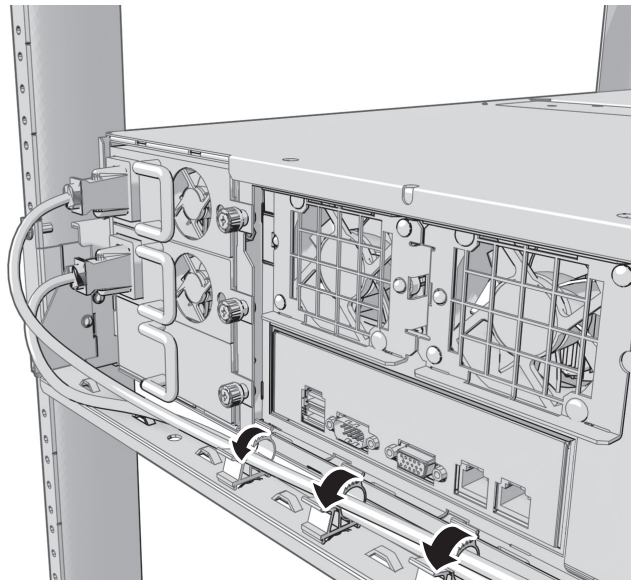

Figure 17. Bundling the Power Supply Cords
14. Position the EE500 power supply cords along the cable management bracket, and then close the cable clips. You can also use cable ties (not supplied) to bundle all the cords (refer to Figure 17).